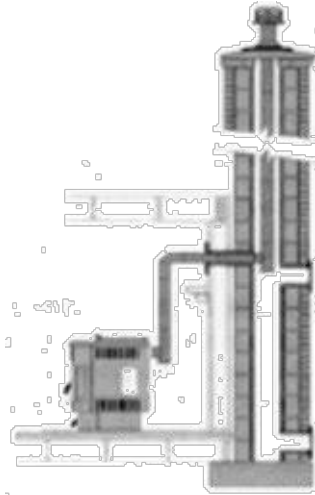

Fig. 1
Pellet fireplace inserts and freestanding stoves are often vented into existing masonry and factory-built fireplace and wood stove chimneys (Fig. 1). The chimney should be inspected before installation to ensure that it is clean, mechanically sound, and meets local safety code requirements. The appliance manufacturer's installation instructions may require relining the chimney with an approved metal liner, pipe, or PL vent. Vents or grilles on the face of factory-built fireplaces which provide cooling air to the outside jacket of the fireplace must not be blocked. Cleanout access for future maintenance should be considered.
- Venting into existing chimney (see Fig. 1)